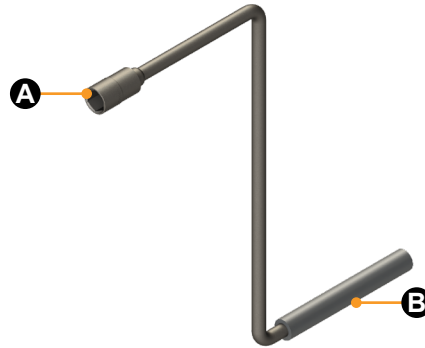

Fig.9
I. Remove the manual crank handle (Fig.9).
D. Insert the manual crank handle (Fig.9) into the manual drive shaft.
F. Remove the manual crank handle (Fig.9).